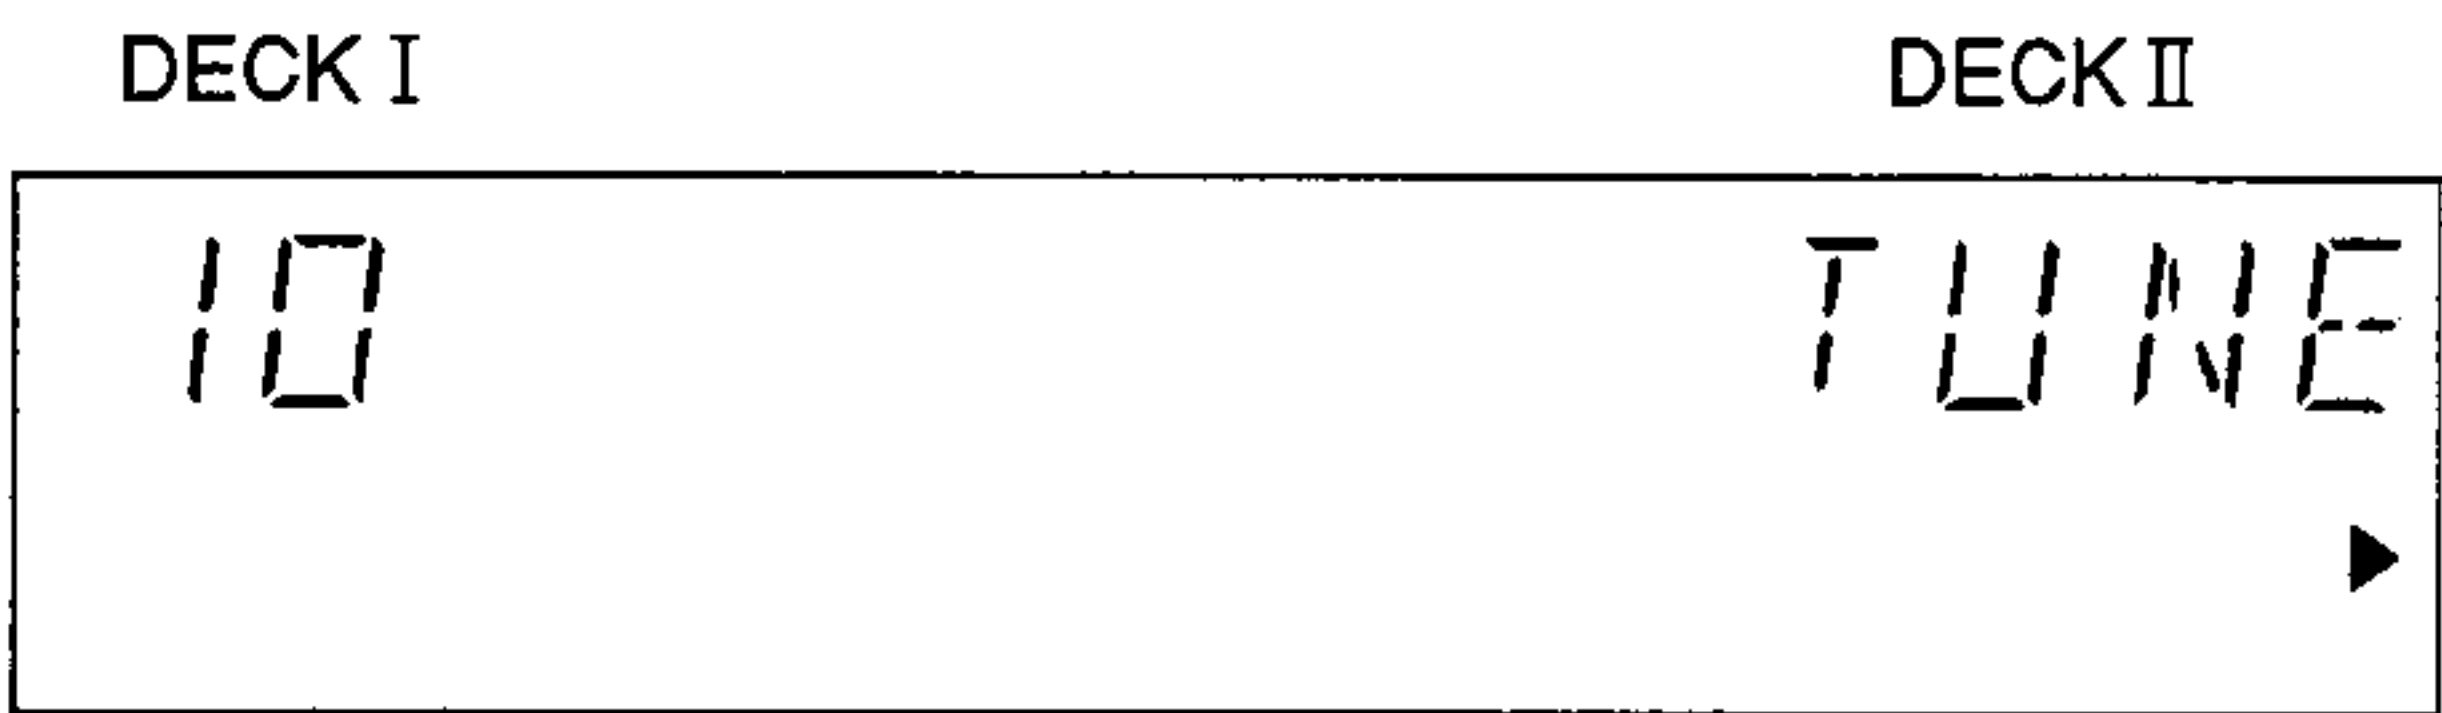

Fig. 6-5 FL Display Example
⑤ When the STOP key is pressed, the automatic adjustment mode is cancelled. At this time, the counter display becomes "10" on the DECK I side and "TUNE" on the DECK II side. (See Fig. 6-5)